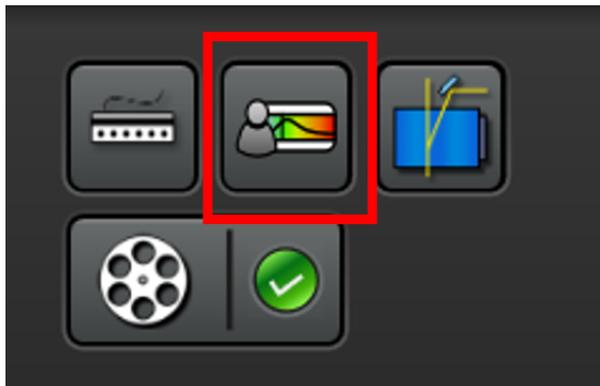

Figure 6
1. Click on the **Dye Assistant** icon located in the middle of the page. See Figure: 6